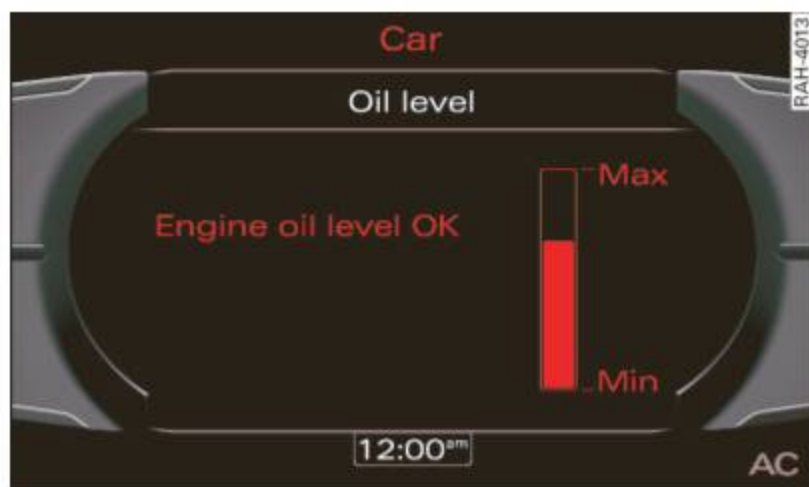

Fig. 213 MMI Display: Oil level indicator
- Read the oil level in the MMI* Display ⇒ fig. 213. Add engine oil if the bar of the oil level indicator is near “Min” ⇒ page 275